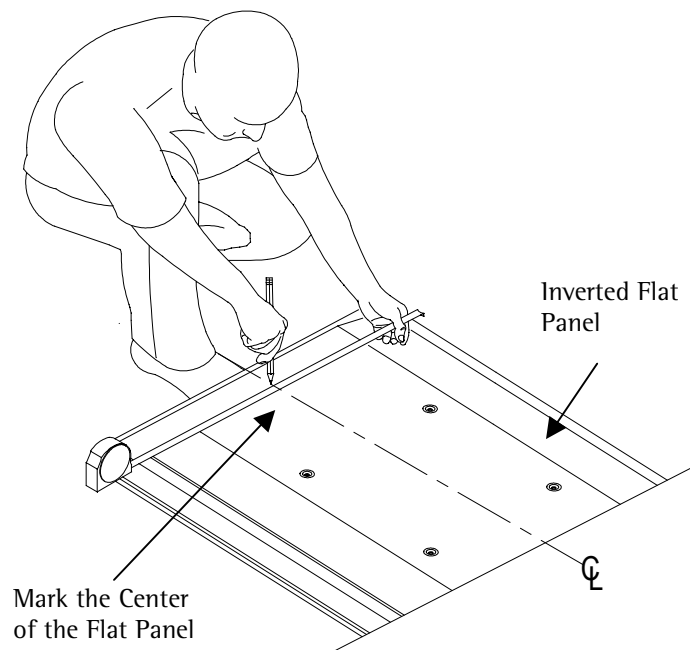

Figure 2. Marking the Mount
2. Using a pencil lightly mark the center of your flat panel (Figure 2).